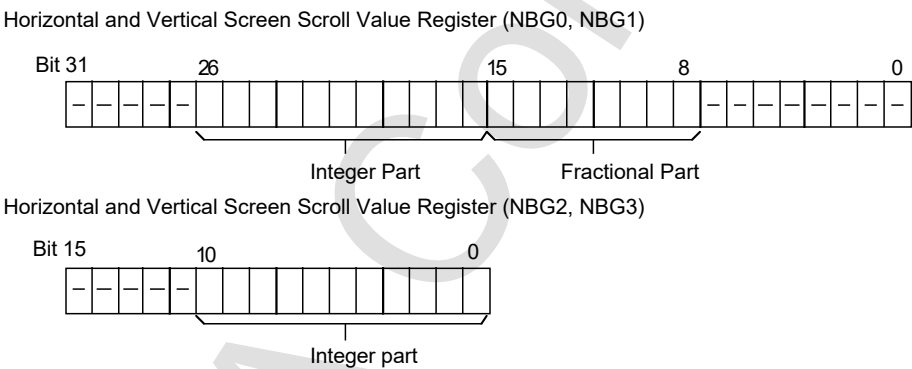

Figure 5.1 Screen scroll value bit configuration
All four surfaces of the normal scroll screen can dot scroll up, down, left, or right in surface units. The screen scroll value selects, in the screen scroll value register, the dot coordinates displayed in the upper left of the TV screen. The screen scroll value is in effect up to and including values that don't exceed the display area set for each screen. The display area of the screen is repeated when a value that exceeds the display area is selected. The fractional part of the screen scroll value for NBG0 and NBG1 is used only in calculating coordinates; the final display coordinate values are discarded. The horizontal (X) coordinate is selected by the horizontal screen scroll value integer part bit and horizontal screen scroll value fractional part bit. The vertical (Y) coordinate is selected by the vertical screen scroll value integer part bit and vertical screen scroll value fractional part bit. The fractional part bit is added immediately below the integer bit. Figure 5.1 shows the bit configuration.